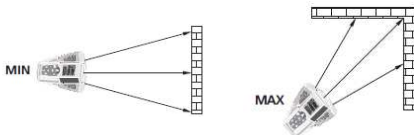

Fig. 3: Examples of continuous measurements
4. The minimum and maximum value of distance are shown in the partial displays while continuous measurement is shown dynamically when moving the instrument (see Fig. 3) in the resulting display